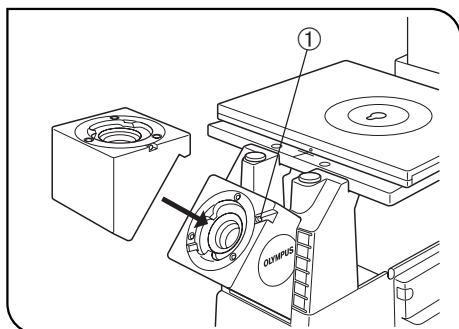
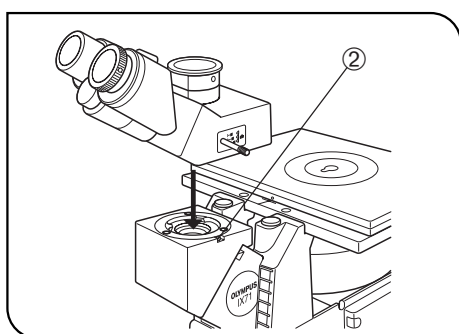

Fig. 99
Fig. 100
U-TR30H Tube (Figs. 99 & 100)
1. Using the Allen screwdriver, loosen the observation tube clamping screw ① on the observation tube mount. (Fig. 99)
2. Insert the circular dovetail mount of the intermediate tube into the observation mount so that its upper surface is flush with the microscope frame. Tighten the observation tube clamping screw ① to clamp the intermediate tube.
3. Using the Allen screwdriver, loosen the observation tube clamping screw ② on the intermediate tube's observation tube mount. (Fig. 100)
4. Insert the circular dovetail mount of the observation tube into the intermediate tube's observation tube mount so that the binocular eyepiece sleeves face toward the front. Then tighten the observation tube clamping screw ② firmly. (Fig. 100)